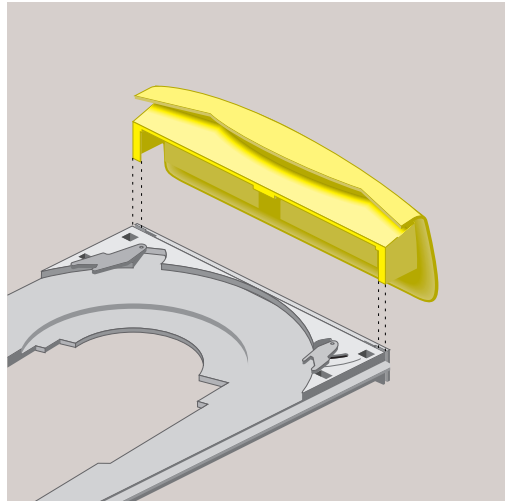

Figure 5-60 Replacing the CD-ROM Face Plate
19. Replace the CD-ROM drive face plate as follows (Figure 5-60).